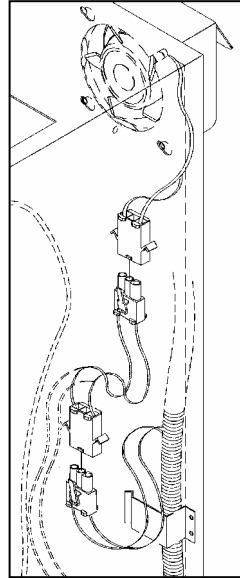

Figure 1
3. **Connect the power adapter harness (figure 1).**